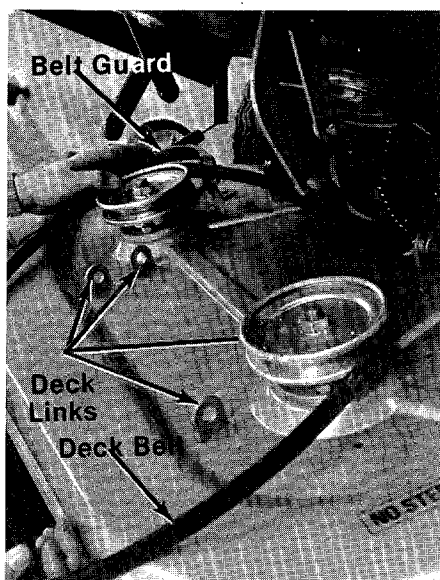

FIGURE 36.
6. Remove the front four deck links from the cutting deck. See figure 36.
7. Remove the belt guards from both deck pulleys. See figure 36.
7. Tip the deck down as shown in figure 36.